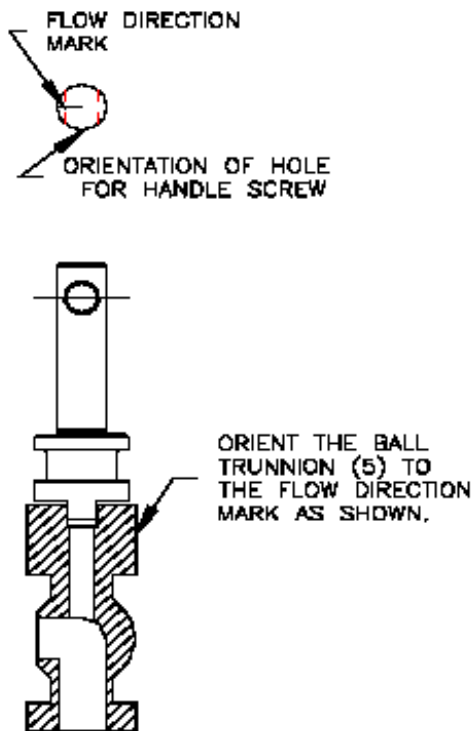

Figure 3: Stem Assembly and Orientation
Note: The port orientation is important when assembling the STEM (4) and BALL TRUNNION (5). Keep the orientation consistent with Figure 1 and Figure 3.
7. Lubricate the STEM O-RING BACK-UP (12) and STEM O-RING (13) with the same type lubricant as in Step 1. Insert the STEM ASSEMBLY (Handle side first) from Step 6 into the bottom of the VALVE BODY (18) until the STEM (4) drops through the stem hole of the VALVE BODY (18). Insert a pin through the STEM (4) handle screw hole and pull the STEM ASSEMBLY until it bottoms in the VALVE BODY (18) stem bore.
8. Lubricate the BALL TRUNNION (5) with the same type lubricant as in Step 1. Holding the VALVE BODY (18) with the bottom port on top, drop the BALL TRUNNION (5) through the bottom port (slot end first). Turn the STEM ASSEMBLY until the BALL TRUNNION (5) and the STEM ASSEMBLY engage (Refer to Figure 3 for proper orientation).
9. Turn the STEM (4) to assure the side hole is 90° (in the off position) from each of the side ports of the VALVE BODY (18).
10. Insert one of the PORT END CONNECTOR (6) sub-assemblies from step 3 into one port of the BODY (18). Thread the PORT END CONNECTOR (6) into the BODY (18) until it is finger tight against the BALL TRUNNION (5).
11. Insert second of the PORT END CONNECTOR (6) sub-assembly from step 3 into the opposite port of the BODY (18). Thread the PORT END CONNECTOR (6) into the BODY (18) until the it is finger tight against the BALL TRUNNION (5).
12. Torque the two PORT END CONNECTOR (6) in the assembly at the same time to 50 Ft-lbs ± 5 Ft-lbs. (A gap will still be present between the end of the BODY (18) and the PORT END CONNECTOR (6)).
13. Place the HANDLE (1) on to the STEM (4) and orient HANDLE (1) to the mark as shown in Figure 3.
14. Insert SET SCREW (2) through the HANDLE (1) and STEM (4) and tighten to 15 in-lbs ± 2 in-lbs.